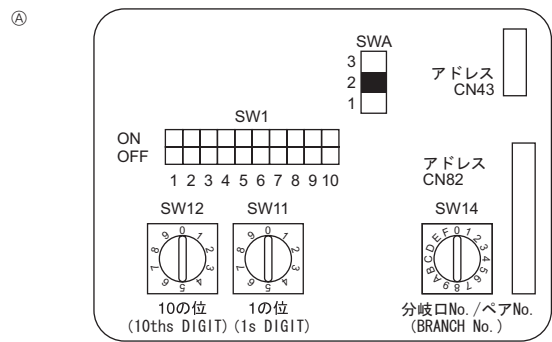

Fig. 6-4
6.5. Setting addresses (Fig. 6-4)
- ① How to set addresses
6.6. Sensing room temperature with the built-in sensor in a remote controller (Fig. 6-4)